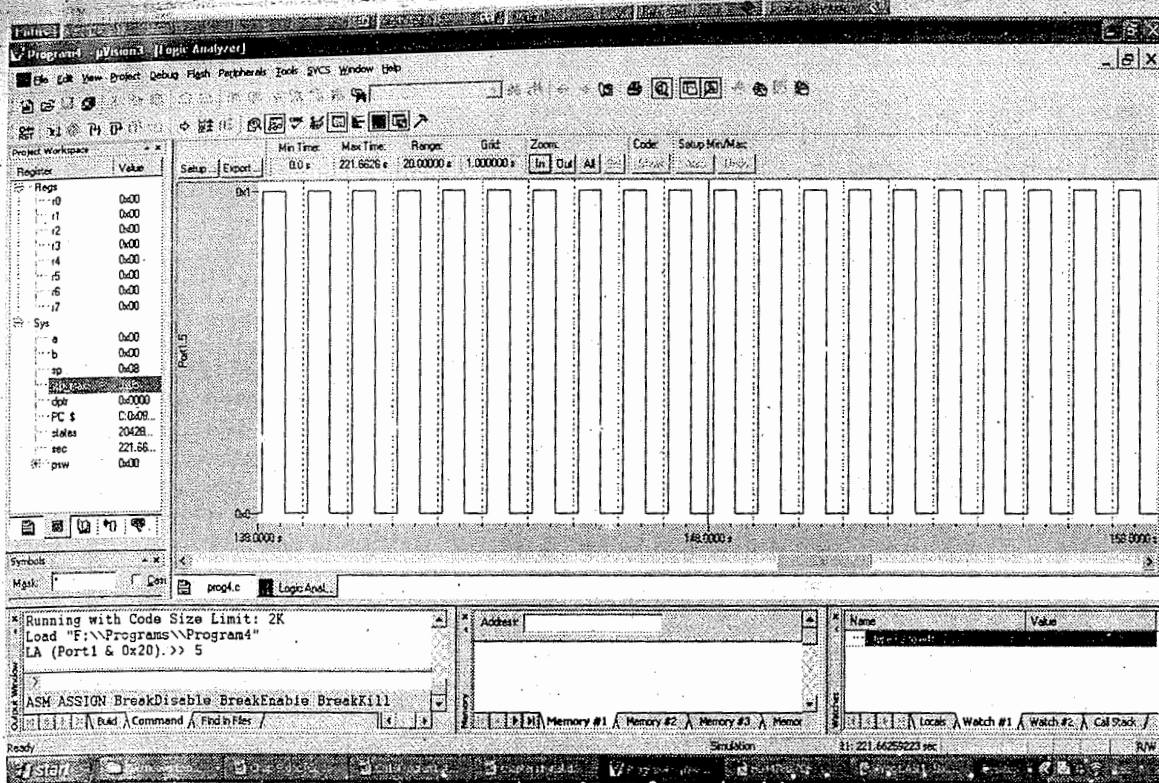

Fig. P. 2.1.3(b) : Output
**Output :** The Fig. P. 2.1.3(b) shows the output of the above program.